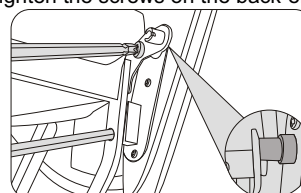

Figure 7
- Put the plastic block between the armrest and calf rest pothook, then tighten the up & down screws. (figure 7)